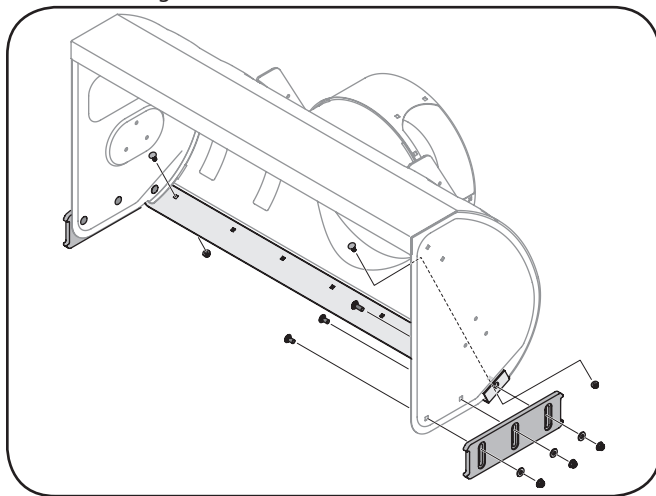

Figure 6-7
1. Remove the six carriage bolts, flat washers and hex nuts that secure the two skid shoes to the sides of the auger housing. Refer to Fig. 6-7.
1. Remove the hex nuts and carriage bolts that secure the shave plate to the bottom of the housing. See Fig. 6-7.